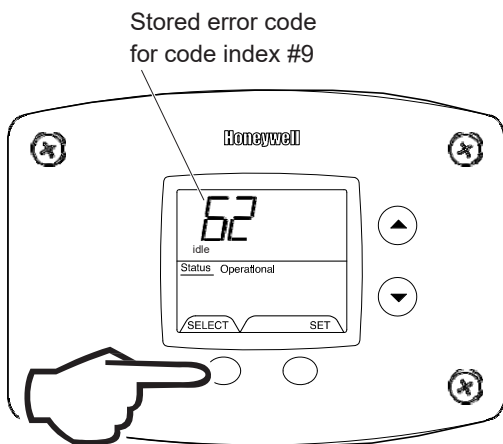

Fig. 79
5. Press the 'Select' button for code index #9 to view if there are any code numbers (Fig. 79).